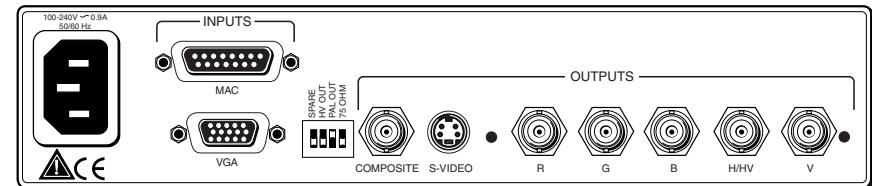

Figure 2-2a. Rear panel of a VSC 100
- ② There are four output formats available on the VSC 100. Connect the appropriate output cable(s) (composite video and/or RGBS/RGBHV or S-video) to the output device(s). See Figure 2-2a for output connectors.